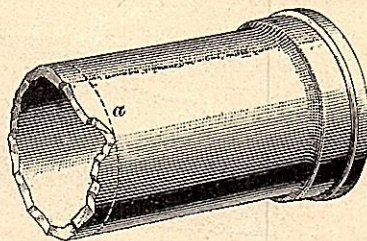
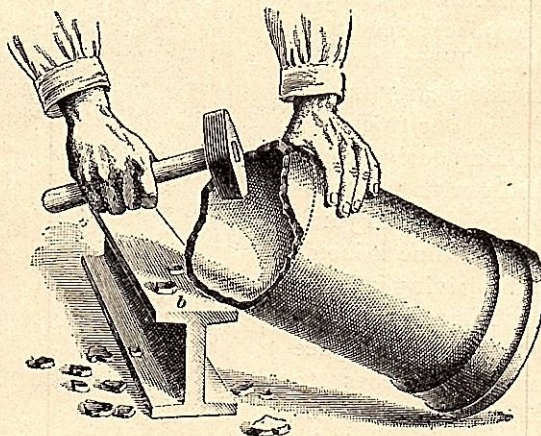

FIG. 3
FIG. 4
3. It sometimes happens that a pipe is defective and will not cut square, breaking crooked, as shown in Fig. 3. Such a piece should not be used, but may be cut again when a shorter piece is required. Or, if circumstances permit the pipe to be shortened, say to the dotted line *a*, the end may be **chipped down**, as shown in Fig. 4. The piece
end is square. The edge obtained by chipping is rough, but if well done, the irregularities need not be more than  $\frac{1}{8}$  inch deep. A break like that shown in Fig. 3 is usually due to an unskilful manipulation of the tools; it does not necessarily indicate a defective pipe.
before running the joint with lead to see that the pipe has not slipped out. This is most liable to occur when calking horizontal joints on the floor. Another defective joint is that in which a poorly cut pipe like that shown in Fig. 3 is used.